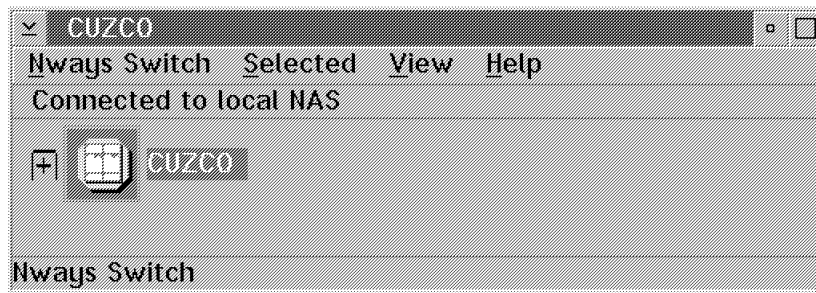

Figure 4. NWays Switch screen.
- ___ 1. If the *NWays Switch* screen (See Figure 4) is displayed go to 10.1, "Export the Active Configuration."
Note: : Ensure that the *NWays Switch Resource Control Local* screen (See Figure 4) is not *Minimized* . Press *Control* and *Escape* keys together to display the *Window List*.